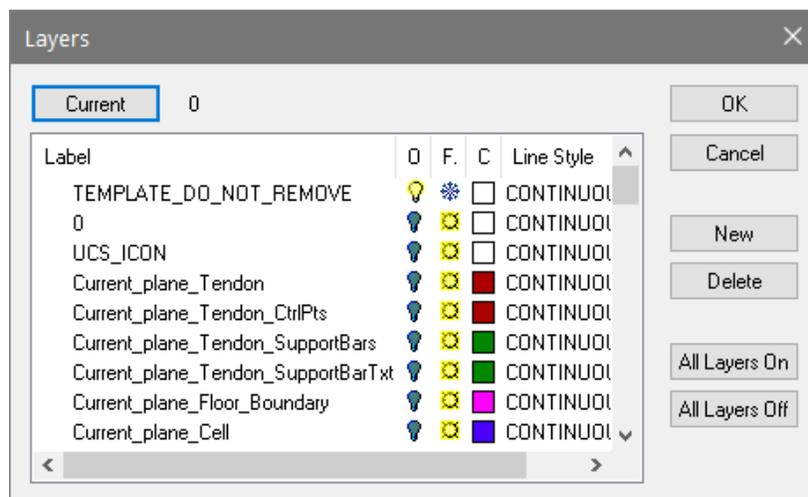

Figure 2-24
- Click on the *Layers Setting*  icon in the **Lower Quick Access Toolbar**. This will open the *Layers* properties window as shown in **FIGURE 2-24**.